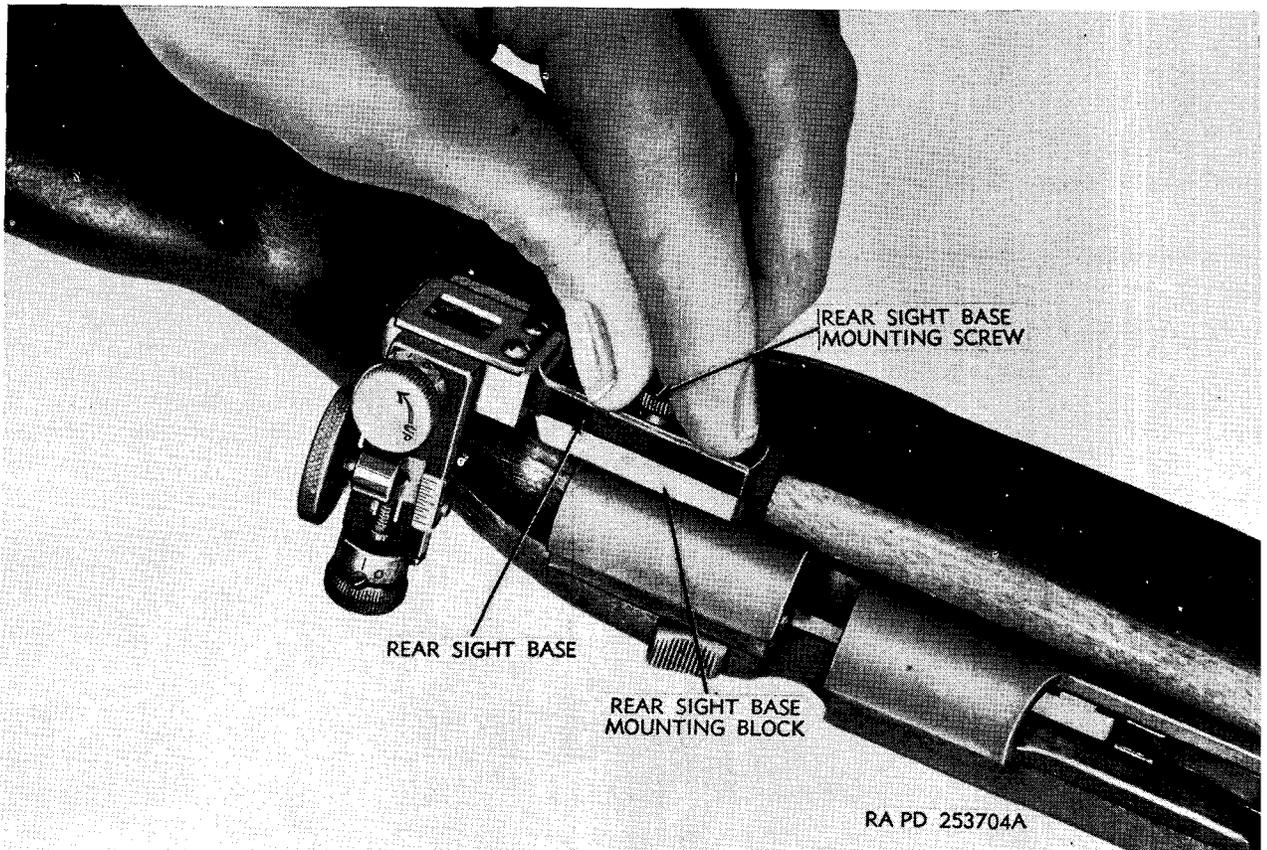

Figure 32. Removing or installing rear sight assembly (Remington rifle M513T).
c. *Remove Rear Sight Assembly* (fig. 32). Using screwdriver 5564038 (fig. 29), remove the rear sight base mounting screw. Withdraw the rear sight assembly from the rear sight base mounting block on the left side of the receiver.
c. Install Rear Sight Assembly (fig. 32). Install the rear sight assembly on the rear sight base mounting block located on the left rear end of the receiver and secure in place with the rear sight base mounting screw.